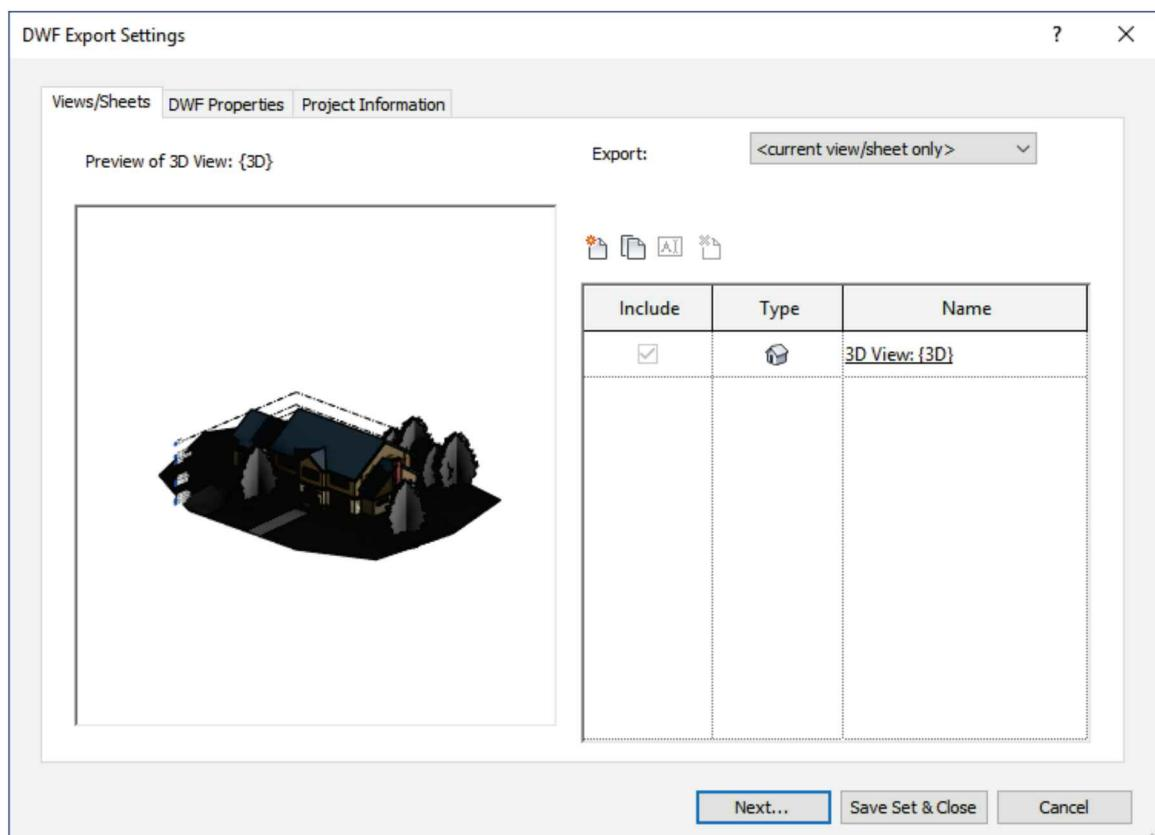

FIGURE 15-2.8 DWF export options
28. Click the **Next** button in the lower right (Figure 15-2.8); specify a file name and location for the DWF file and then click **Save**.